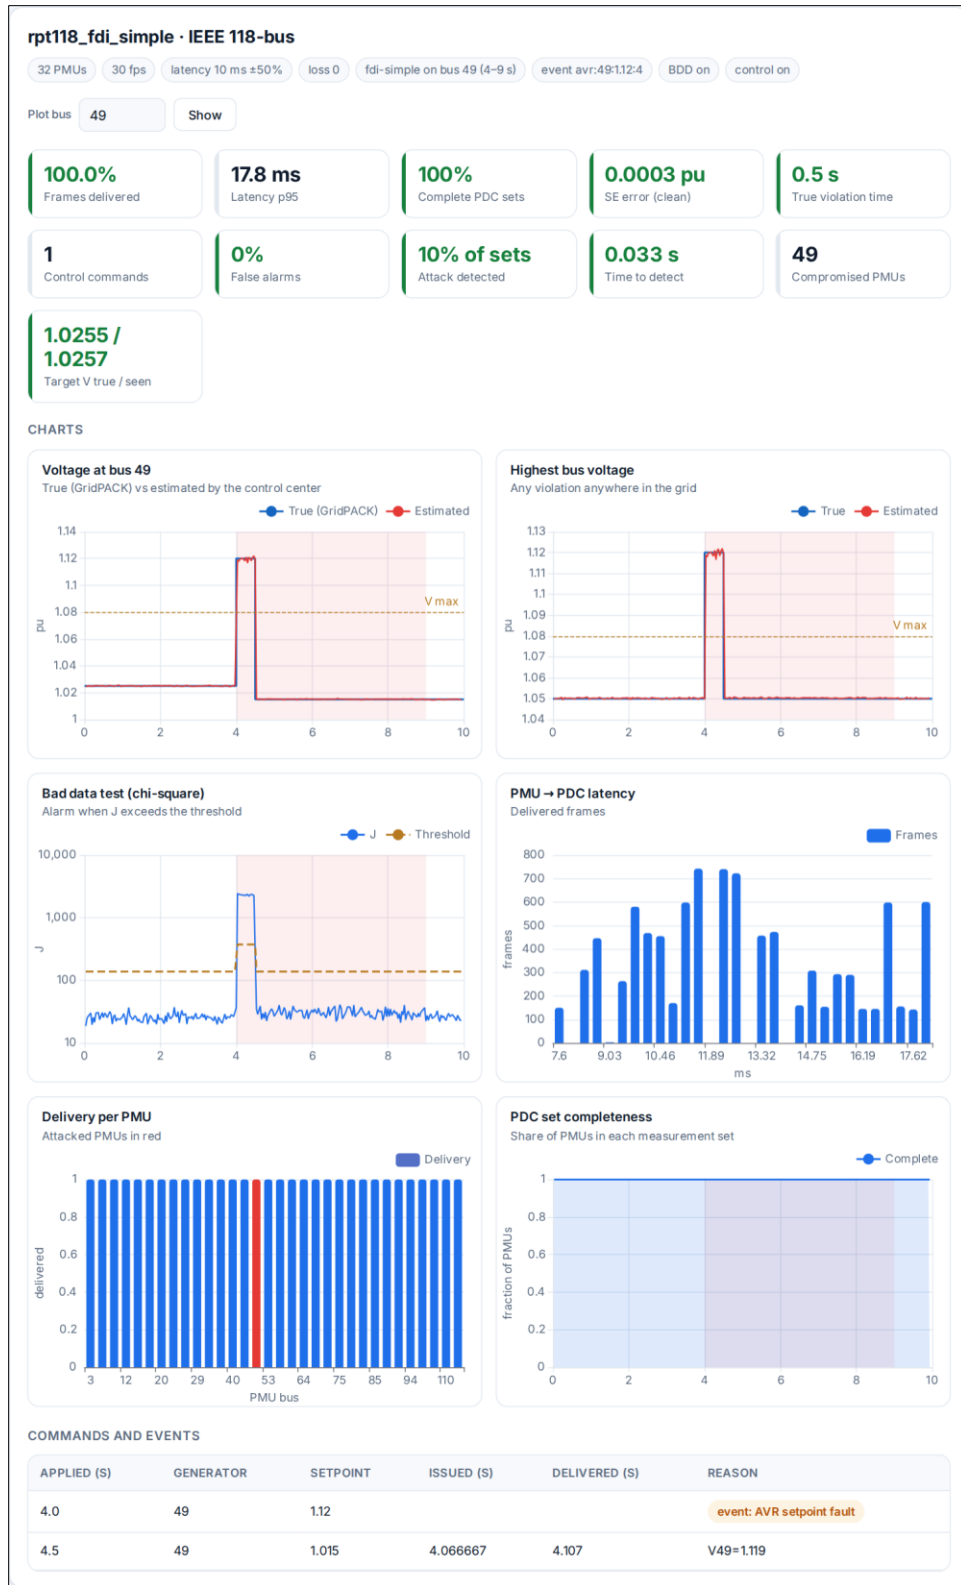

Figure 6: Results of the IEEE 118-bus generator fault with a simple FDI attack on bus 49.
2. After about 30 s the results open (Fig. 6). In **Voltage at bus 49** the true voltage jumps to 1.12 pu at 4 s and returns to about 1.015 pu at 4.5 s: the control center saw the violation and lowered the generator setpoint.